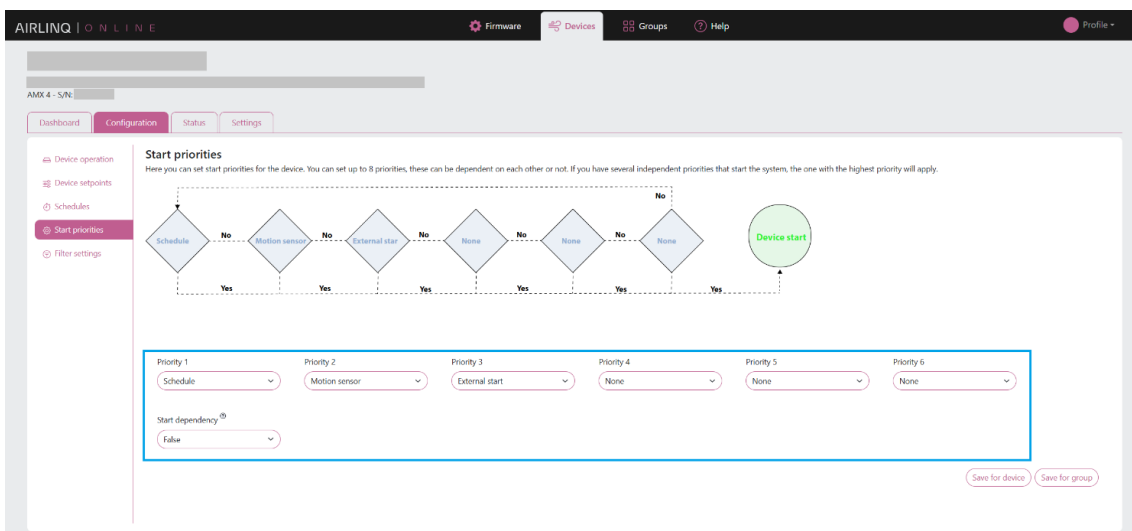

Figure 36: Priority settings
2. Next, you configure the priorities according to your requirements. This is done in the area marked with a blue square in Figure 36 below: